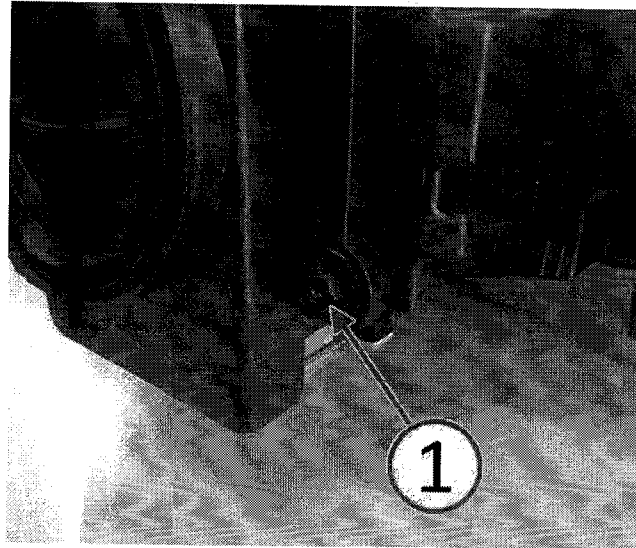

Fig. 1 Headlamp Adjusting Bolt
- For right side headlamp: Adjust the headlamp using the hex manufactured into the adjusting bolt on the backside of the headlamp (Fig. 1).
- For left side headlamp: Remove the air box. Adjust the the headlamp using the hex manufactured into the adjusting bolt on the backside of the headlamp (Fig. 1). Reinstall the air box.